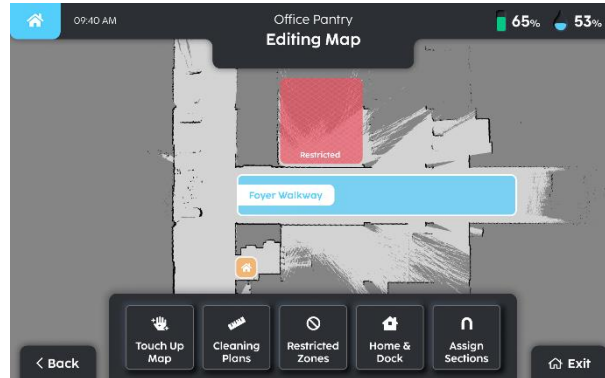

Fig.9
1. Define the 'CLEANING ZONE' in the 'EDIT MAP' page (Fig 9).